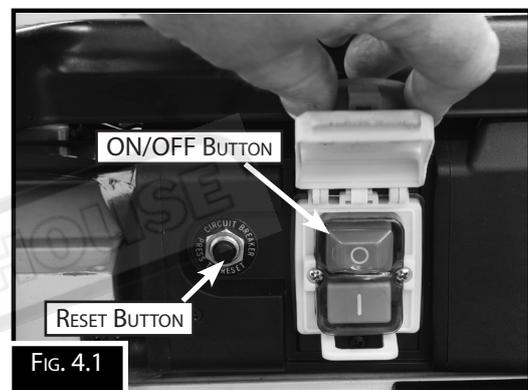

FIG. 4.1
**ON/OFF Switch:** Starts/stops the spindle and the drive rollers of the Thicknesser. (Fig. 4.1)